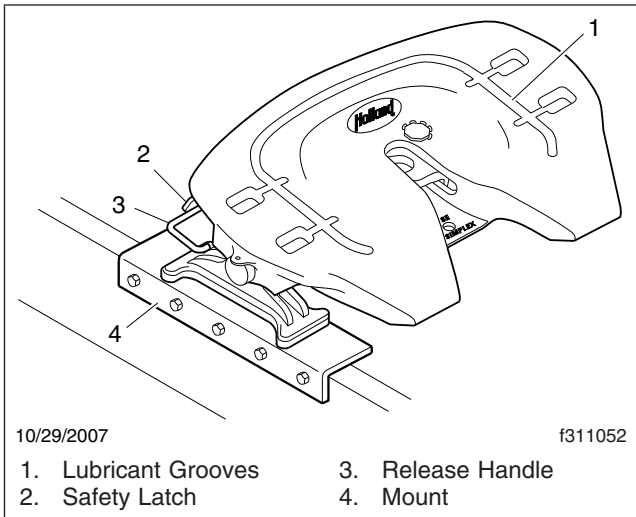

Fig. 1, Holland FWS1 Fifth Wheel
4. When the wheel is locked, the safety latch must swing free and fall freely into position. See **Fig. 1**.